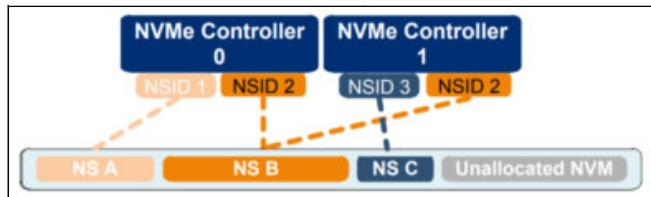

Figure 3-19 Shared and private namespaces
Figure 3-19 illustrates a shared namespace (B) accessible from both controllers.